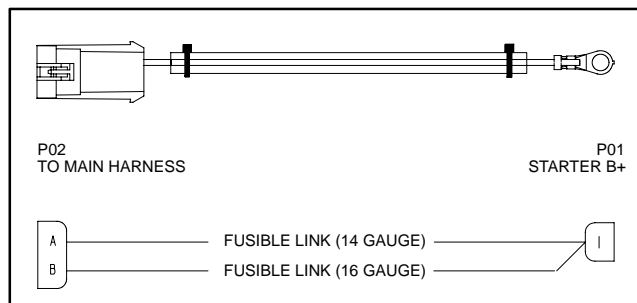

Figure 22
The Multi Pro sprayer uses two (2) fusible links for circuit protection. These fusible links are located in a harness that connects the starter B+ terminal to the wire harness (Fig. 22). If either of these links should fail, current to the protected circuit will cease. Refer to wire harness drawings in Chapter 10 – Electrical Drawings for additional fusible link information.